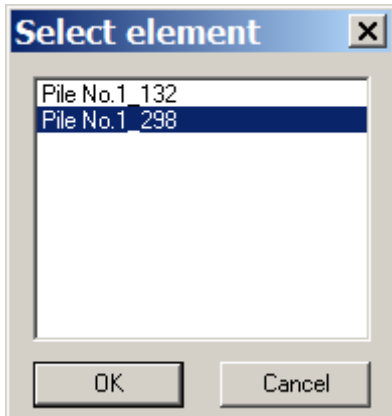

Figure 1.25.4 **Select element** dialog box
- ⇒ In the **Select element** dialog box (see Fig.1.25.4), clarify the selection: